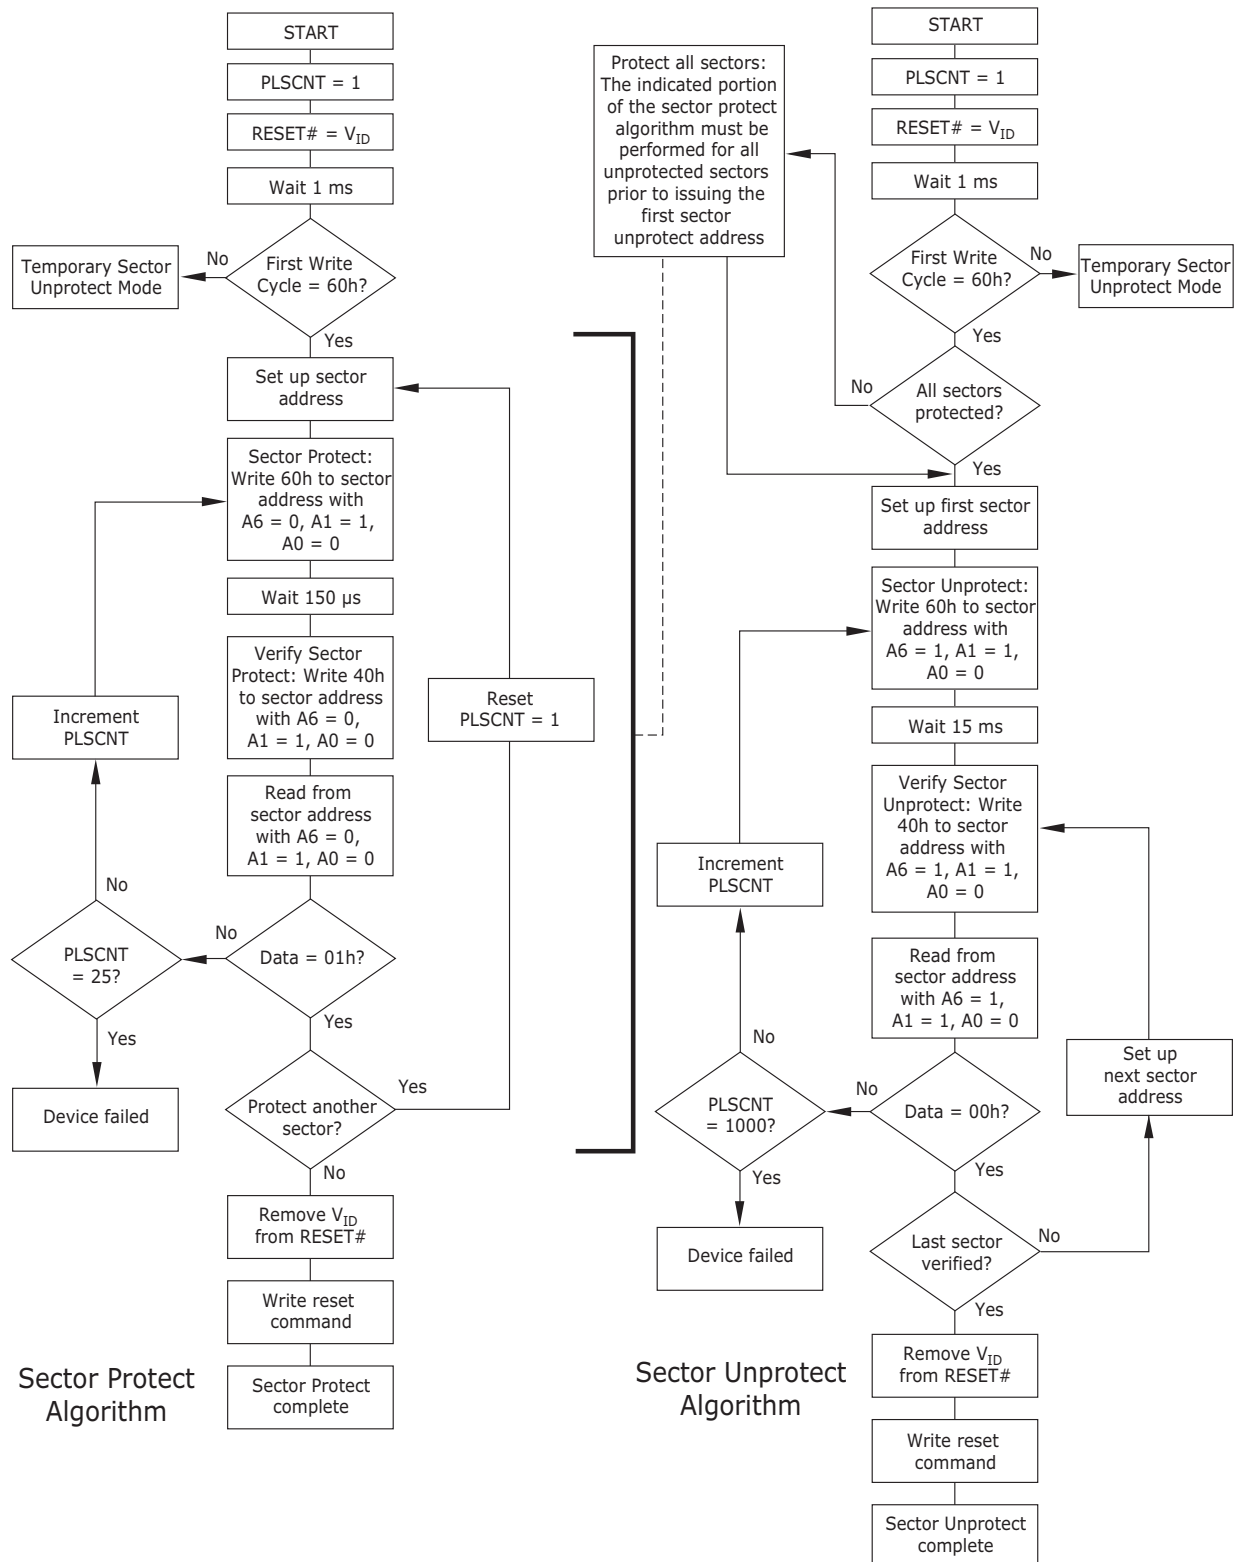

Figure 2. In-System Sector Protect/Unprotect Algorithms
Sector protect/Sector Unprotect requires V_{ID} on the RESET# pin only, and can be implemented either in-system or via programming equipment. Figure 2 shows the algorithms and Figure 26 shows the timing diagram. For sector unprotect, all unprotected sectors must first be protected prior to the first sector unprotect write cycle. *Note that the sector unprotect algorithm unprotects all sectors in parallel. All previously protected sectors must be individually re-protected.* To change data in protected sectors efficiently, the temporary sector unprotect function is available. See "Temporary Sector Unprotect" .
- Write the three-cycle Enter SecSi Sector Region command sequence, and then follow the in-system sector protect algorithm as shown in Figure 2, except that *RESET#* may be at either V_{IH} or V_{ID} . This allows in-system protection of the SecSi Sector Region without raising any device pin to a high voltage. Note that this method is only applicable to the SecSi Sector.